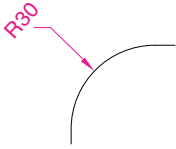

Fig. 6.8 A radius dimension at an angle of 45°
2. If the response is **a** (Angle), and an angle number is *entered* the text for the dimension will appear at an angle. Fig. 6.8 show a radius dimension *entered* at an angle of 45°.